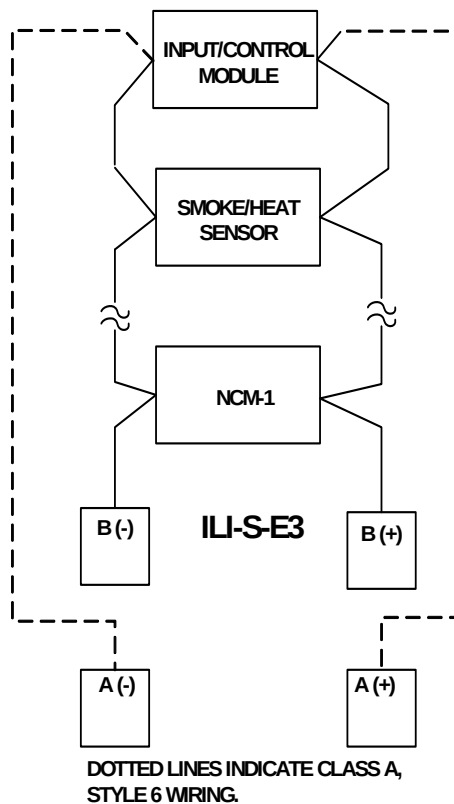

Figure 3.4.1.1 Signaling Line Circuits
The ILI-S-E3 provides two (2), 24 VDC Class A, Style 6, 7 or Class B, Style 4 signaling line circuits. See Figure 3.4.1.1 for wiring information. Style 7 wiring requires the use of an M500X Isolator Module, on both sides of a device.